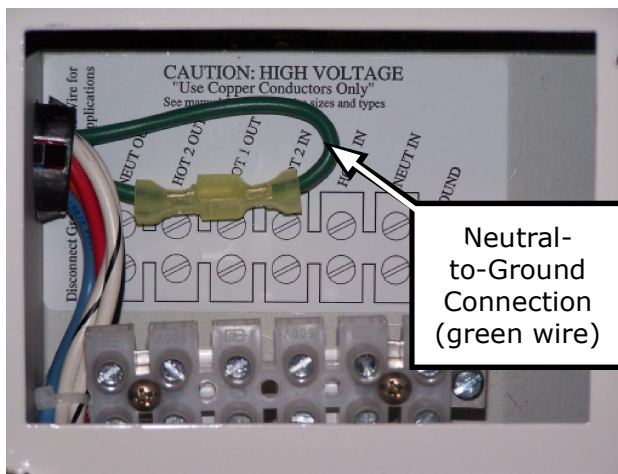

Figure 2-24, Disconnecting the Neutral-to-Ground Connection
When AC on the boat is being supplied by shorepower, the onboard neutral should be connected to safety ground on the dock¹. Consequently, neutral and safety ground should not be connected anywhere on the boat when shorepower is present. When AC on the boat is being supplied by the MS Series inverter, the inverter's output neutral is connected to safety ground through an internal relay, using its neutral-to-ground connection (shown in Figure 2-24).
2. Inside the AC wiring compartment, locate the green wire with the insulated connector (Figure 2-24). This insulated connector connects the neutral and ground inside the inverter while inverting.